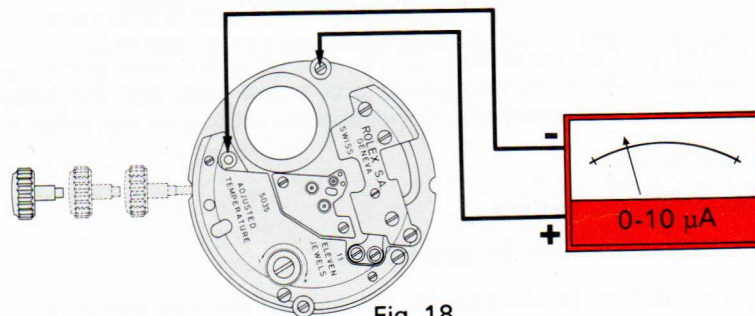

Fig. 18
- 9.19. Fit the handsetting stem in position 3 (no current supply to motor) and measure the consumption of the electronic module (Fig. 18) which should be \leq to $3 \mu\text{A}$.